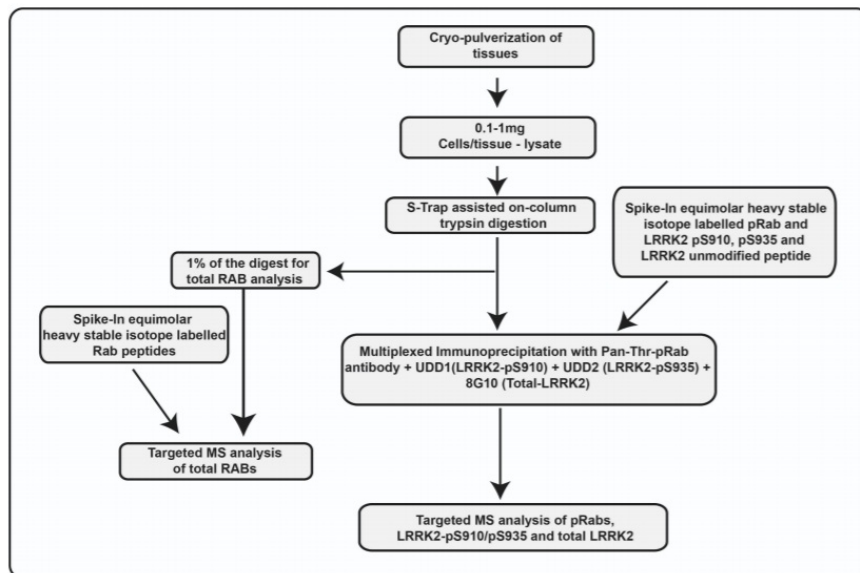

Fig. 1) Workflow depicting the sample preparation for pRab's and LRRK2 pS910/pS935, total LRRK2 targeted mass spectrometry analysis
- 21) Empore C18 disks, 47 mm (CDS analytical #2215) (Note: Prepare a single layer with 16-gauge needle and pass it with spray duster into the 250 µl tip for 0.1 to 5 µg of peptide amount. For more than 5 µg use 2 or 3 layers of C18 material. Refer Figure 1 -see below for Stage-tip assembly).